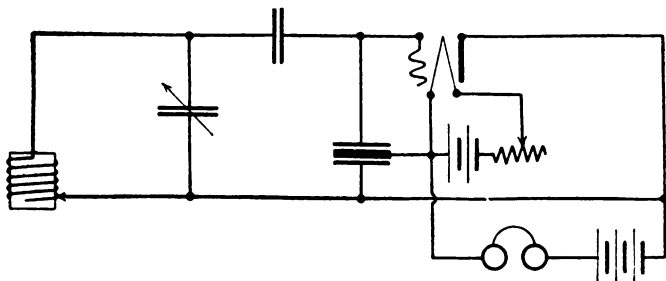

Fig. 21.—Another Method for Making the Circuit Oscillate.
B. Tickler condenser method. The coupling condenser shown in Fig. 21 is made of two fixed and one variable plate, arranged so that when capacity is increased between